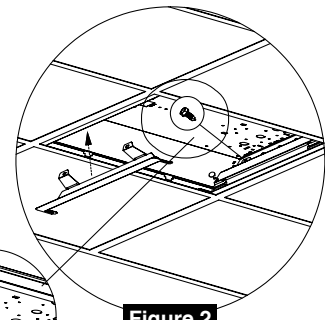

Figure 2
2. Install LED Troffer end brackets to each end of the existing fixture housing by gently lifting the housing and placing LED troffer end brackets between the fixture housing and T-grid. (Fig.2)